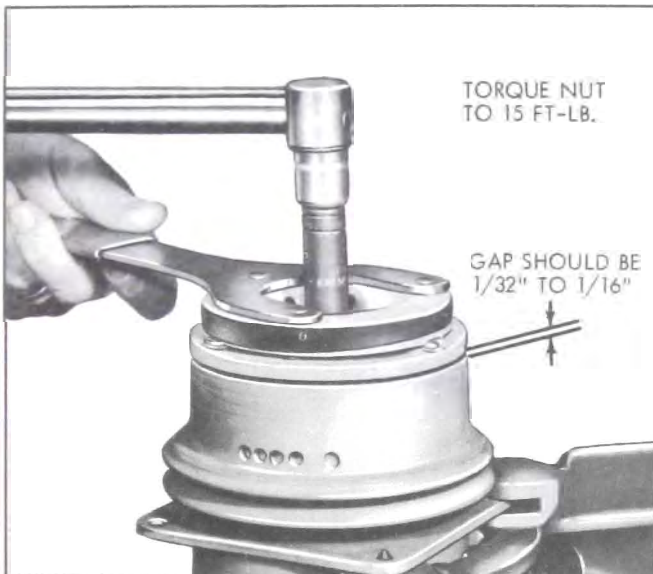

Figure 11-42—Torquing Shaft Nut
6. Install a new shaft nut, using J-9399, special thin wall 9/16" socket. Tighten to 15 lb. ft. torque. The air gap between the friction faces of the pulley and drive plate should now be between .022" to .057" (1/32" to 1/16") clearance. See Figure 11-42.